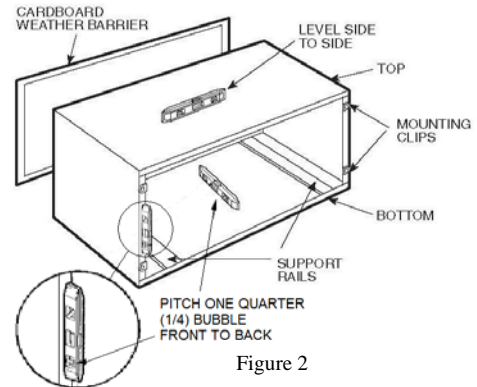

Figure 2
Step 3 Leveling Sleeve — Place level in locations shown in Figure 2. Sleeve must be mounted level side to side and a 1/4 bubble tilt front to back. This will allow for proper condensate drainage.